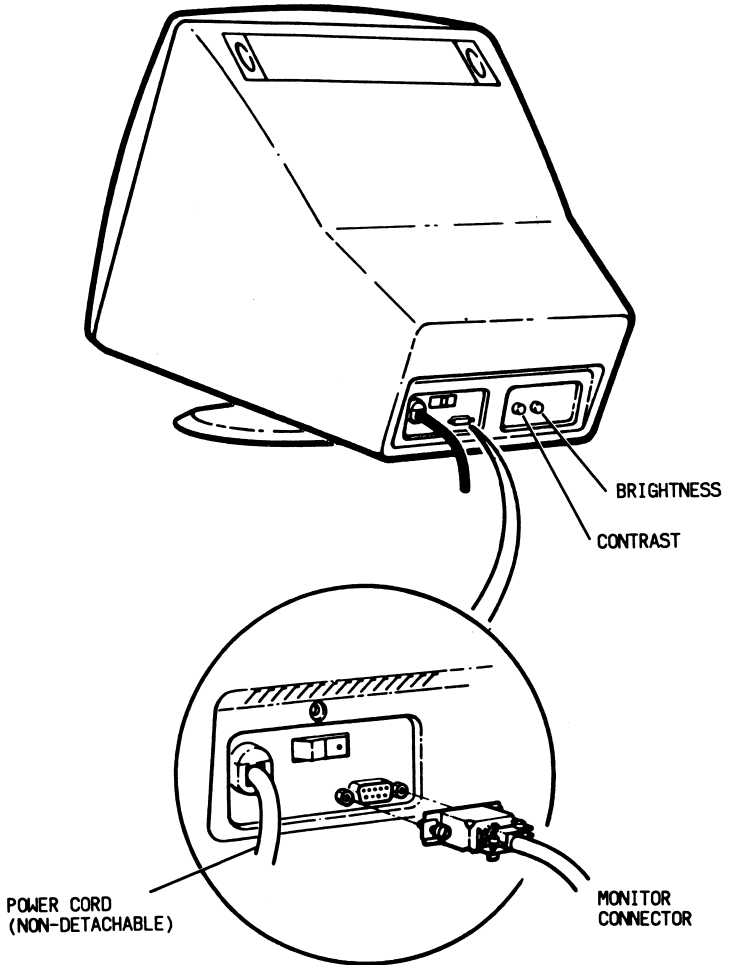

Figure 5-5. Rear View of the Desktop Monitor
4. Plug the other end of the monitor cable into the back of the monitor where it says "VIDEO". Refer to Figure 5-5 for location. Screw in the captive screws as explained above.